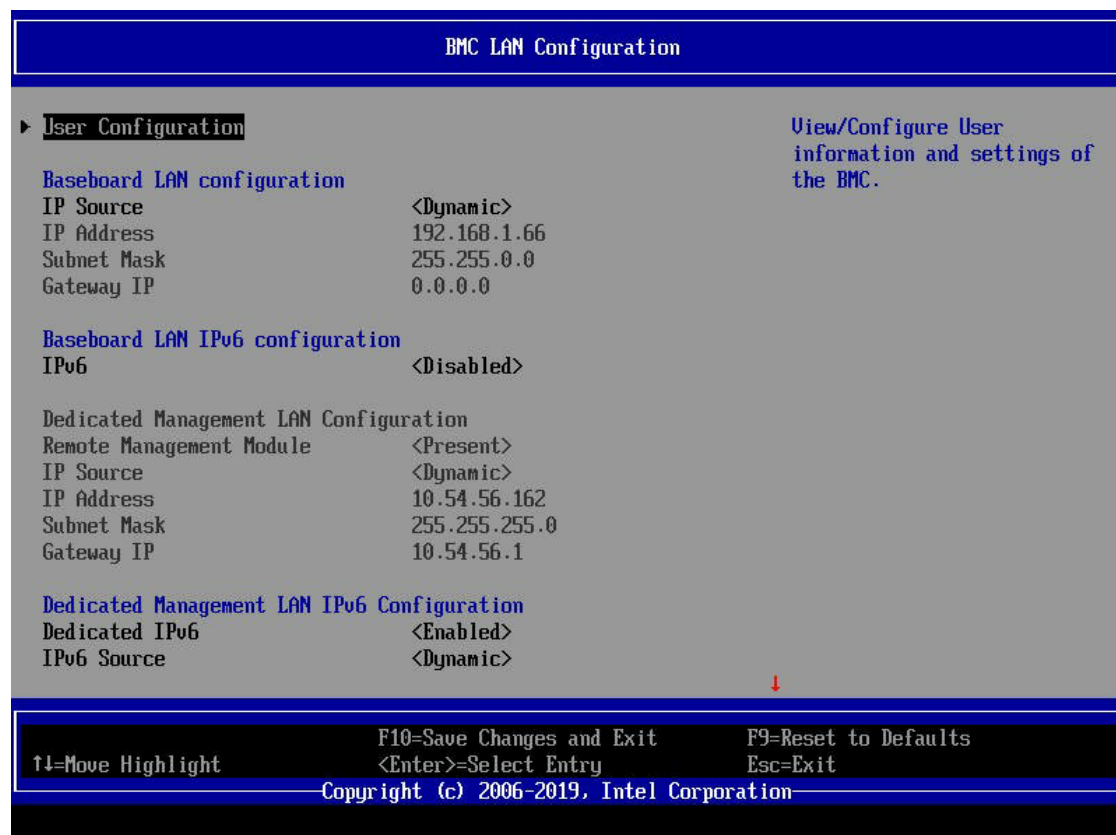

Figure 3. BMC LAN Configuration screen
8. Return to the BMC LAN Configuration screen (see Figure 3).